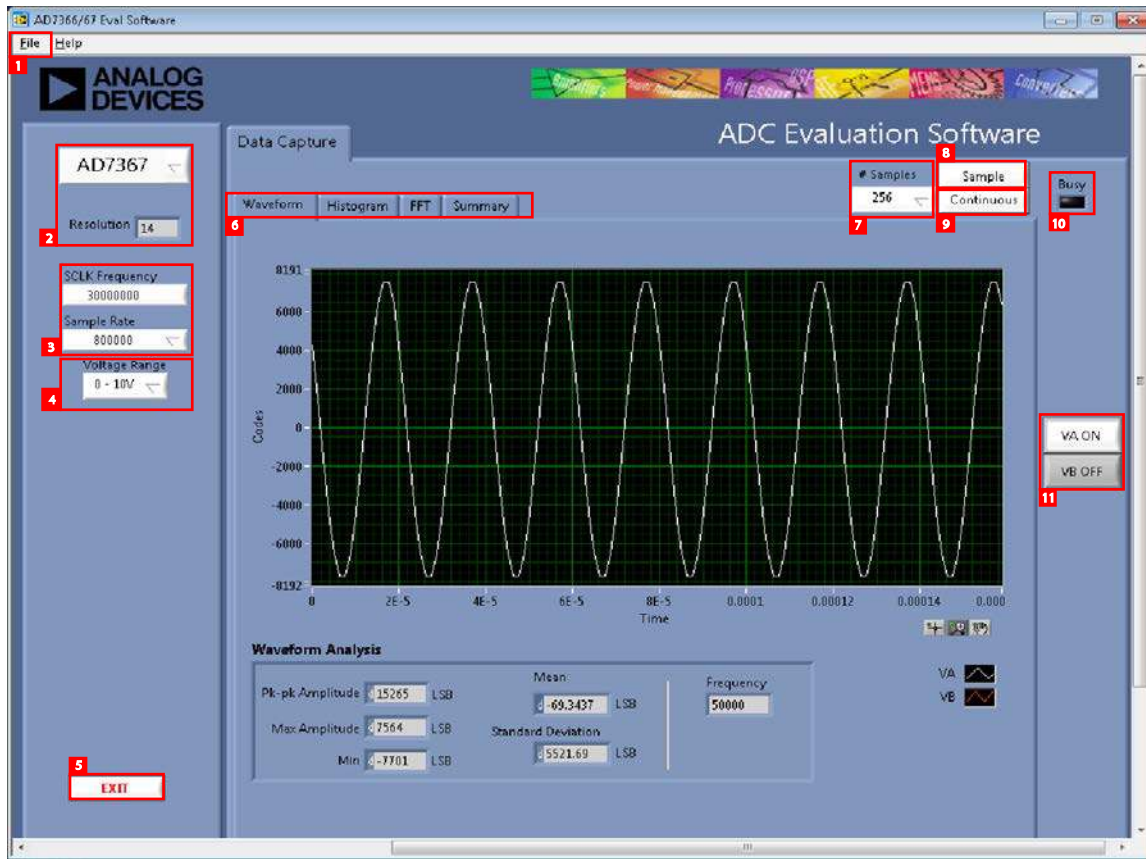

Figure 15. User Software Panel
The user software panel then launches as shown in Figure 15.
The user software panel, as shown in Figure 15, has the following features. Refer to the labels numbered 1 through 11.
**File** menu (labeled 1 in Figure 15) offers choices of
Drop-down menu (labeled 2 in Figure 15) is used to select the generic AD7366 or AD7367. The resolution of selected part is displayed.
**Sample Rate** (labeled 3 in Figure 15) can be selected from the drop-down menu. Rates of 800 kSPS, 500 kSPS, 400 kSPS, 200 kSPS, 100 kSPS, and 50 kSPS are allowed.
**Voltage Range** (labeled 4 in Figure 15). Use this in conjunction with LK18 and LK19. Ensure that this setting matches the hardware setting.
**Exit** (labeled 5 in Figure 15). Use this to exit the software. Alternatively, go to **File>Exit**.
There are four tabs (labeled 6 in in Figure 15) available displaying the data in different formats:
Select the number of samples (labeled 7 in Figure 15) to analyze.
Choose **Sample** to perform a single capture (labeled 8 in Figure 15).
Choose **Continuous** to perform a continuous capture (labeled 9 in Figure 15) from the ADC. Click again to stop sampling.
This LED (labeled 10 in Figure 15) indicates when a read is in progress from the EVAL-SDP-CB1Z board.
Channel display buttons (labeled 11 in Figure 15). Use these to display multiple channel reads on the display. Select only one channel for FFT analysis.